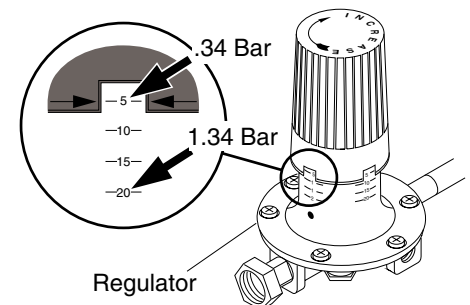

Figure 7 - Adjustable Regulator Set At .34 Bar
5. Adjust regulator between .34 and 1.34 bar (see Figure 7). **Note:** Higher regulator setting will allow heater to produce more heat.